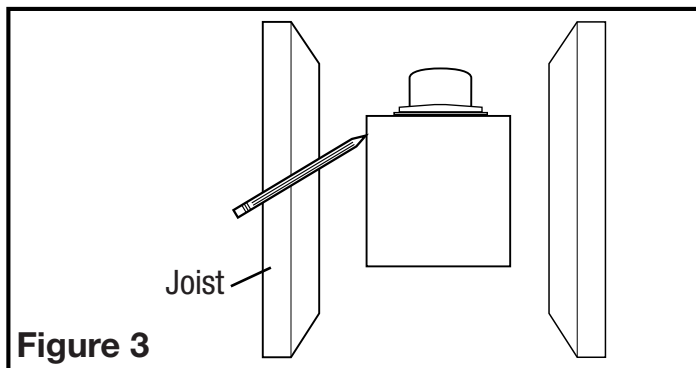

Figure 3
1. Set housing in position between the joist and trace an outline onto the ceiling material (Figure 3). Set housing aside and cut opening, being careful not to cut or damage any electrical or other hidden utilities. Install the rails on the housing and position the housing in the previously cut hole so that it is flush with the finished ceiling. Secure the ends of the rails to the joists (Figure 3).